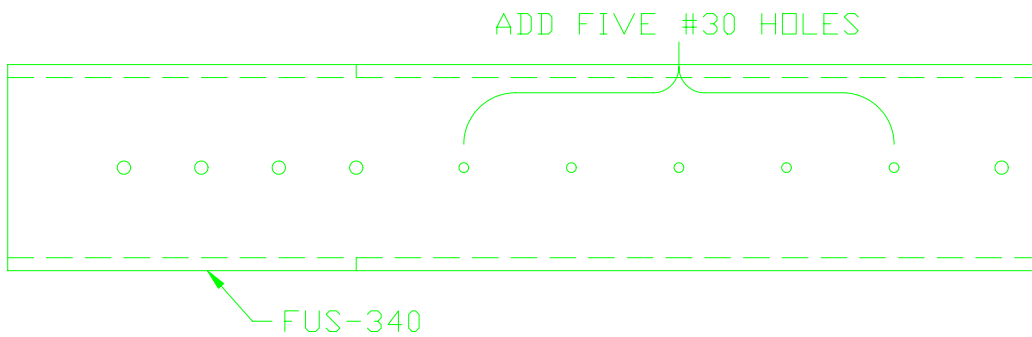

FIGURE 1
- 1) Take two FUS-340 engine mount brackets and add five #30. holes. Figure 1.